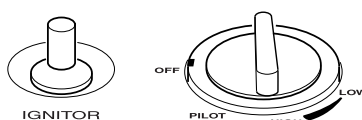

Figure 16 - Control Knob In The OFF Position
3. Turn control knob clockwise  to the OFF position (see Figure 16).
4. Wait five (5) minutes to clear out any gas. Smell for gas around heater and near floor. If you smell gas, **STOP!** Follow "B" in the safety information in column 1. If you don't smell gas, go to next step.
5. Slightly depress and turn control knob counterclockwise  to the PILOT position. Press in control knob for five (5) seconds.